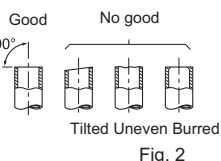

Fig. 2
- If the drain hose provided with the indoor unit is too short, connect it with drain hose (I) that should be provided at your site. (Fig. 2)
- Pull out the drain hose at the rear left of the indoor unit. (Fig. 2)